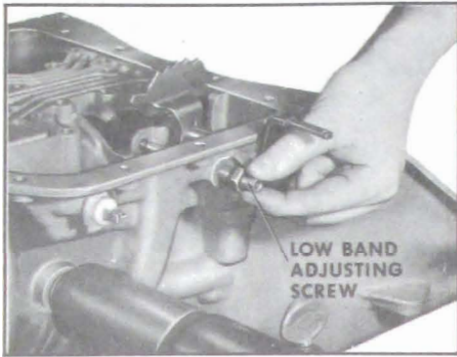

Figure 5-306
1. With transmission in vertical position install band adjusting screw into case. See Figure 5-306.